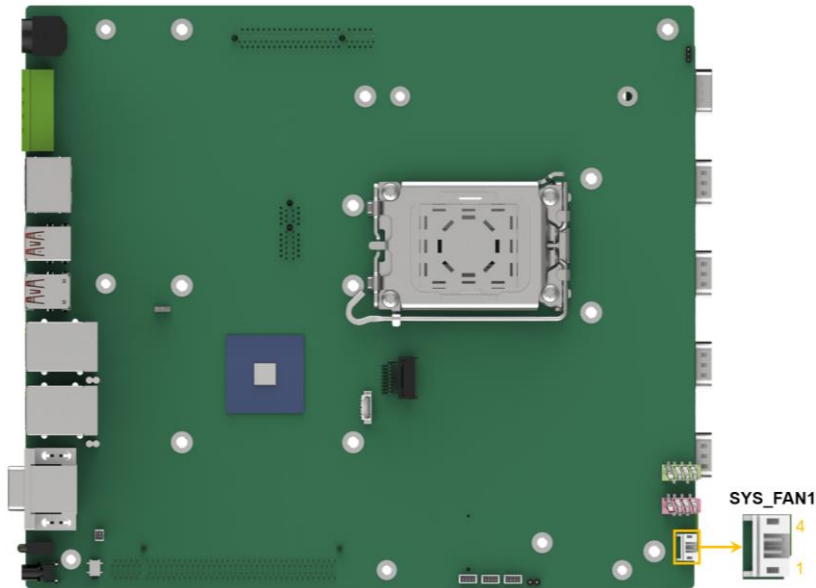

Figure 4-4: System Fan Connector Location
- CN Location:** See **Figure 4-4**